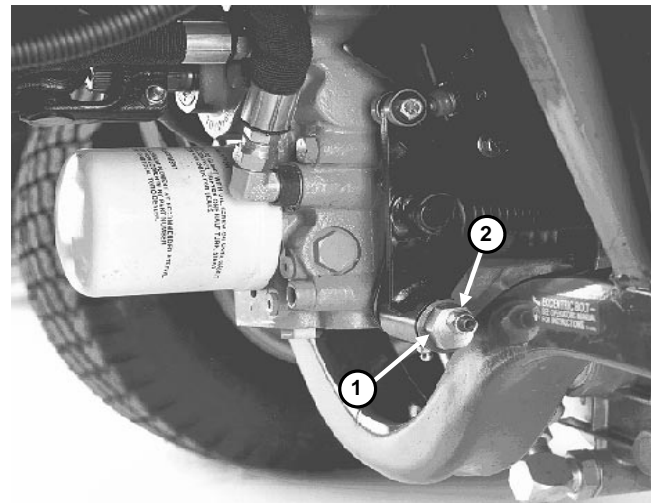

Figure 24
3. Under right side of transmission, loosen locknut on traction adjustment cam (Fig. 24).